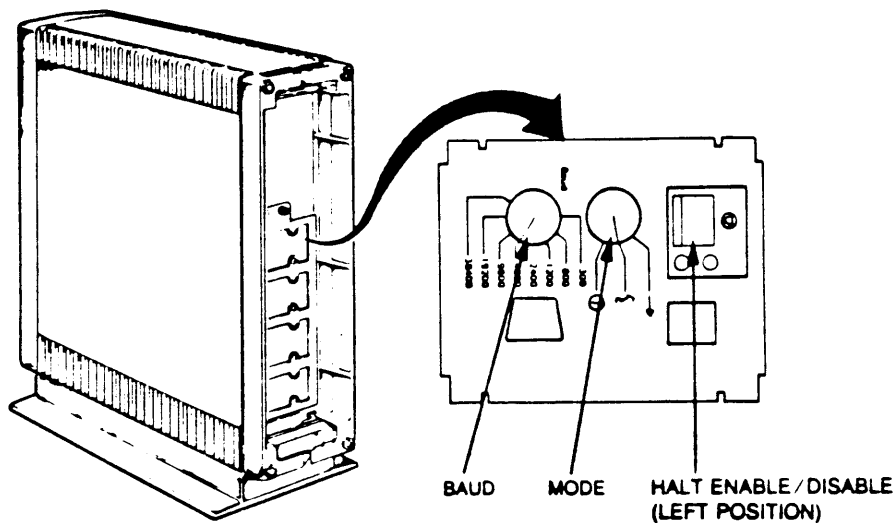

FIGURE 2-3. Setting the controls on the CPU Distribution Insert.
Step 7: Set the controls on the CPU distribution panel (Figure 2-3) on the rear of the unit to the positions listed below.